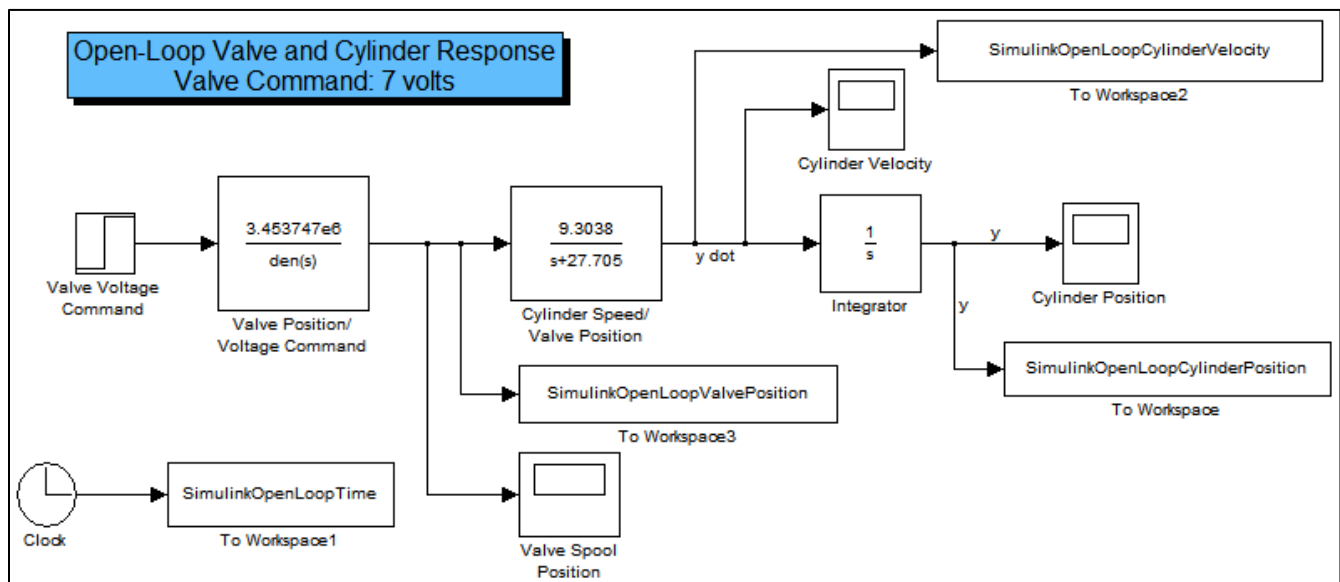

Fig. 5. Simulink Model of Open-Loop Valve and Cylinder Dynamics
Fig. 5 shows a Simulink model of a typical hydraulic actuation system including both valve and cylinder dynamics. The transfer functions representing valve and cylinder are as given in Eqs. (5) and (6).